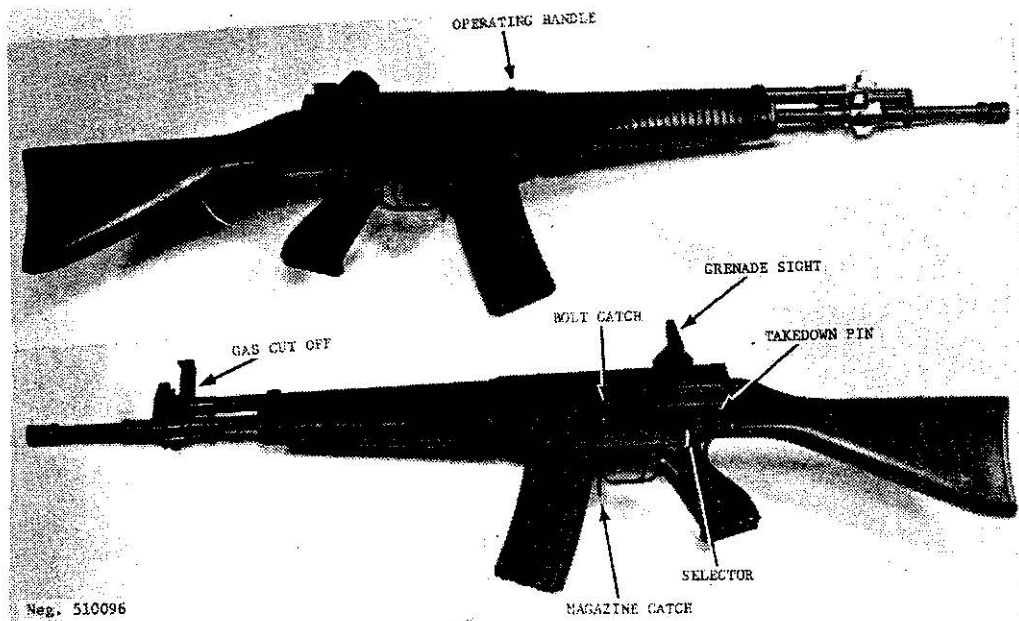
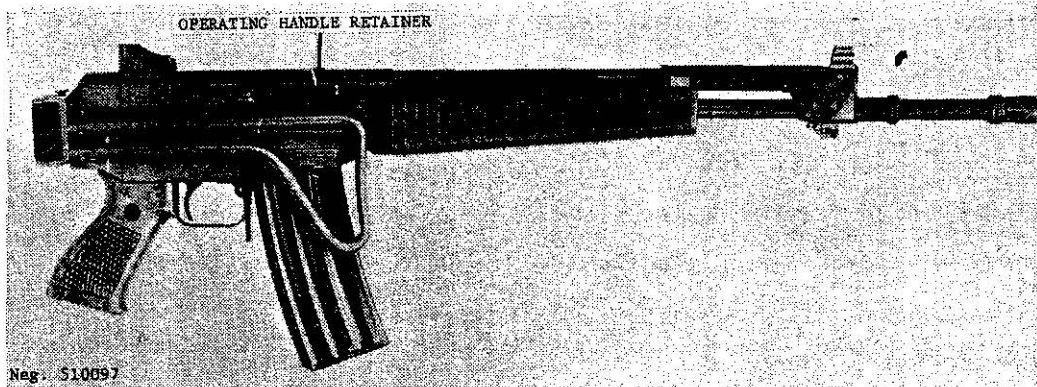
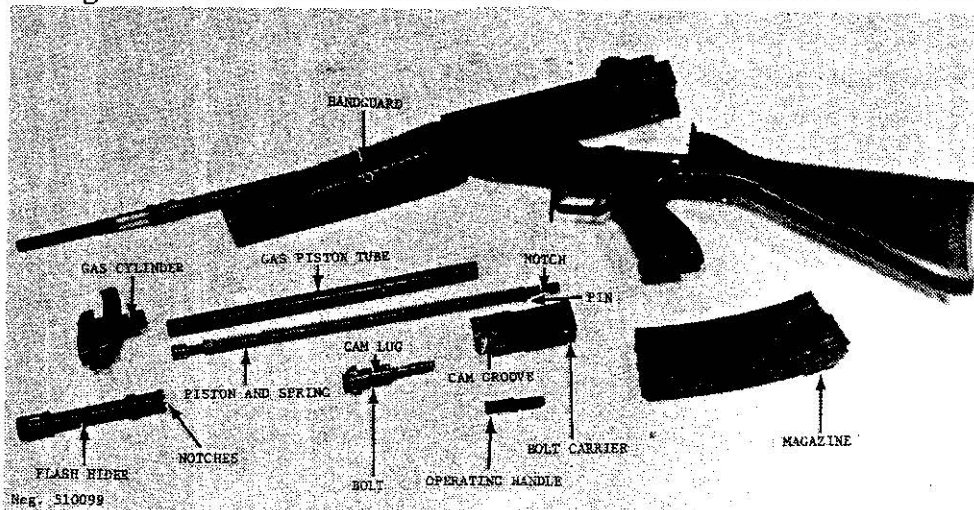

Figure 97. Italian Beretta M70/.223 rifle.
Figure 98. Beretta M70/.223 rifle with folding stock (early model).
Figure 100. Beretta M70/.223 disassembled.
a. The 5.56-mm Beretta M70/.223 rifle is the most recent military rifle developed by the Beretta firm of Italy. The M70/.223 is made as a conventionally stocked rifle (fig 97), as a folding-stock rifle (fig 98), and as a light machinegun (fig 99). All of these variant weapons use the same mechanism and magazine; the differences lay in the different type stocks used and in the heavy barrel and bipod of the machinegun.
b. Grasp the operating handle (fig 97), pull it fully rearward, and release it. CAUTION: The rifle is now loaded and ready to fire. If the rifle is not to be immediately fired, place it on safe by rotating the selector (fig 97) to the vertical position, indicated by the letter "S".
d. Remove the empty magazine by pressing the magazine catch (fig 97) toward the magazine and pulling the magazine out of the rifle. The bolt can be closed either by pulling the operating handle rearward and releasing it or by pressing in the top of the bolt catch (fig 97) inward.
e. To clear the rifle, set the selector (fig 97) to the safe (vertical) position "S". Press the magazine catch toward the magazine and pull the magazine out of the rifle. Press in the bottom of the bolt catch (fig 97) and, while holding it in, pull the operating handle fully rearward and release it. The bolt will be caught open. Inspect to insure that no cartridges are present. Press in the top of the bolt catch, rotate the selector off safe, and press the trigger. Insert the magazine.
marked on the tail boom if a bullet trap is incorporated. If it is not positively known that the grenade has a bullet trap, clear the rifle and insert a bulletless, crimped grenade cartridge into the chamber. Slide a grenade over the grenade launcher and seat it fully. Erect the front and rear grenade sights (fig 97). (Note: The front sight is only an indicator that the gas mechanism has been turned off to protect the rifle's mechanism.) Aim, using the appropriate 50-, 75-, or 100-meter aperture in the rear grenade sight and the regular front sight post, and press the trigger. Pull the operating handle rearward to eject the fired cartridge case.
a. Clear the rifle (without moving the safety off safe), press the trigger, or insert the magazine. Press out the takedown pin (fig 97) from left to right and swing open the receiver (fig 100). Pull the operating handle retainer (fig 98) to the rear with the point of a bullet and pull out the operating handle. Hold a hand behind the receiver opening and point the muzzle upward; the bolt unit will emerge from the rear of the receiver. If necessary, partially engage the operating handle with its hole in the bolt carrier and pull the bolt unit to the rear until it can be removed. Pull the bolt (fig 100) forward in the carrier (fig 100), twisting the bolt at the same time until it comes out of the carrier.
b. In the front of the gas cylinder is a small plunger that seats in the notches of the flash hider (fig 100). Push the plunger in and unscrew the flash hider (right-hand thread). Pull the gas cylinder (fig 100) forward, off the barrel, and pull the gas piston tube (fig 100) forward and remove it. Push the piston (fig 100) rearward slightly, against the pressure of its spring, until the piston can be rotated. Ease the piston forward, then rotate it until it comes free.
c. The handguard (fig 100) can be removed by pulling down on its front end until it comes off the barrel. Rotate the handguard down until it can be removed.
f. Insert the piston into the receiver. The small pin (fig 100) must be aligned with its slot in order to enter the receiver. Once in the receiver, rotate the piston so that the notch for the operating handle (fig 100) faces down and the pin seats in its recess to prevent rotation of the piston. Slip the piston tube over the piston and seat it in the receiver.
i. Insert the bolt carrier into the receiver, bolt first, and move it fully forward. Insert the operating handle into its hole in the bolt carrier (forcing the retainer rearward) until the retainer snaps into place. Pull the operating handle rearward to insure that it has engaged the piston, and spring pressure is felt. Close the receiver, push the takedown pin (fig 97) home, move the safety off safe, press the trigger, and insert the magazine.